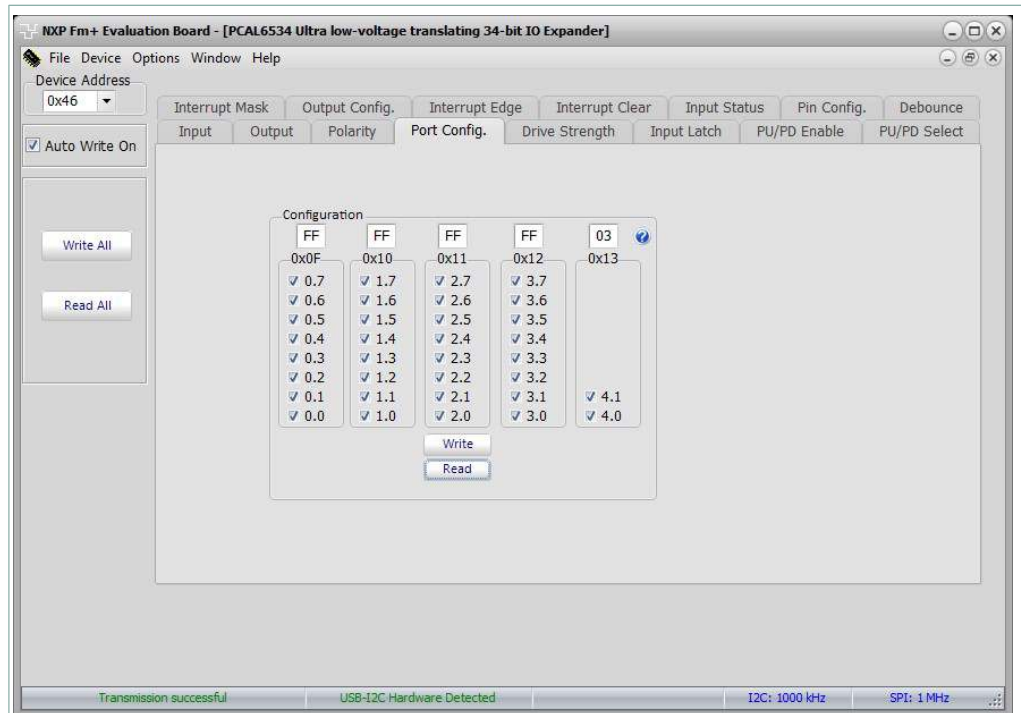

Figure 13. Device configuration screen for registers 0F-13 hex
5. Port Configuration registers read or write are shown in Figure 13.